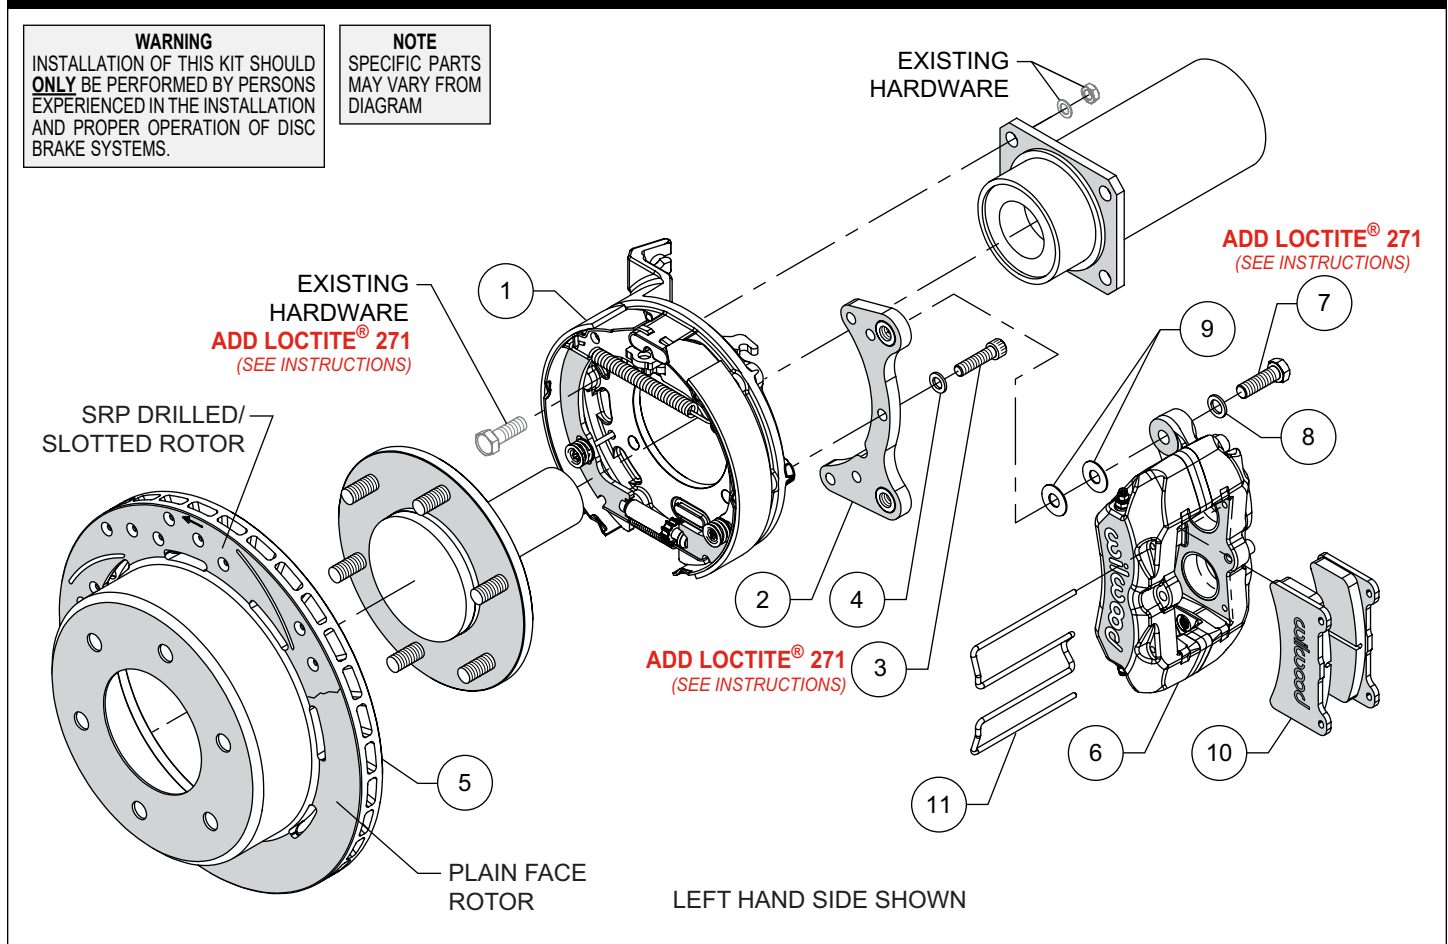
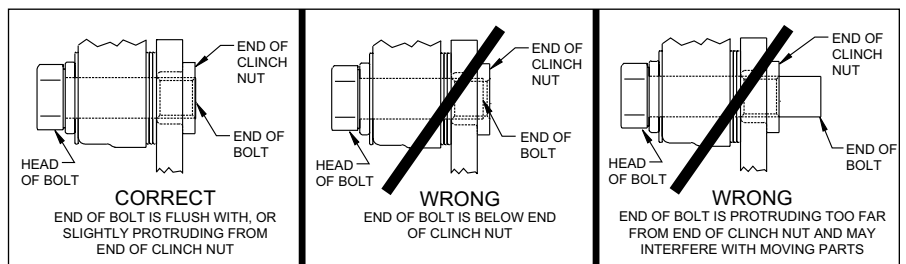

Figure 1. Typical Installation Configuration
Figure 4. Clinch Nut Engagement Diagram
NOTE: Numbers in parenthesis refer to the parts list and Figure 1 on the preceding pages.
CAUTION: All mounting bolts must fully engage clinch nuts. Be sure to check that all bolts are either flush or protruding through flanged side of clinch nut after shimming, Figure 4.
- Orient the parking brake assembly (1), as shown in Figure 1, and mount to the axle housing flange using the Original Equipment Manufacturer (OEM) bolts and nuts, Figure 1 and Photo 1. Ensure that the parking brake assembly backing plate fits flush against the axle housing flange. Apply red *Loctite*® 271 to the OEM bolt threads and torque to OEM specifications.
- Install the caliper mounting bracket (2) to the parking brake assembly (1) using bolts (3) and washers (4) as shown in Figure 1 and Photos 2 and 3. Apply red *Loctite*® 271 to the bolt threads and torque to 25 ft-lbs.
- Align the hole pattern in the rotor/hat with the stud pattern on the axle flange and slide into place, Figure 1. **NOTE:** The rotor/hat must fit flush against the axle flange or excessive rotor run out may result. Install three lug nuts (finger tight) to keep the rotor/hat assembly in place while continuing with the installation, Photo 4.
•**NOTE:** Please reference the caution statement at the beginning of the assembly instructions. Mount the caliper (6) onto the caliper mounting bracket (2) using bolts (7) and washers (8), as shown in Figure 1. Initially place two .035" thick shims (9) on each bolt between the caliper and the bracket, Photo 5. Temporarily tighten the mounting bolts and view the rotor (5) through the top opening of the caliper. The rotor should be centered in the caliper, Photo 6. If not, adjust by adding or subtracting shims (9) between the bracket and the caliper. Always use the same amount of shims on each of the two mounting bolts. **NOTE:** The end of each bolt must be flush with or slightly protruding from the head of the clinch nut, as shown in Figure 4. If necessary place spare shims between washer (8) and caliper mounting ear to achieve the proper clinch nut engagement. Once the caliper alignment and clinch nut engagement are correct, remove the bolts one at a time, apply red *Loctite*® 271 to bolt threads, and torque to 40 ft-lb.